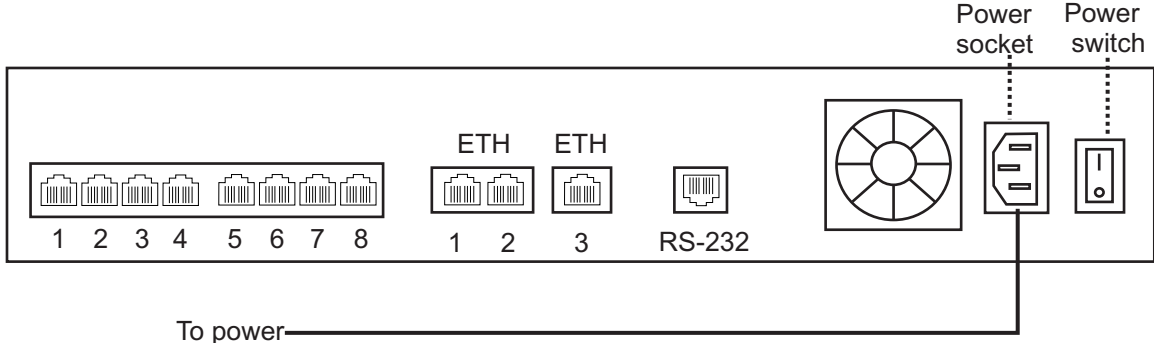

Figure 2.9 AC Power Connection
The TMP800 is furnished with one AC power connector (Figure 2.9 on page 17).
1. Connect an AC power cable between the AC connector of the Tmedia unit and an AC supply. See Figure 2.9 on page 17.